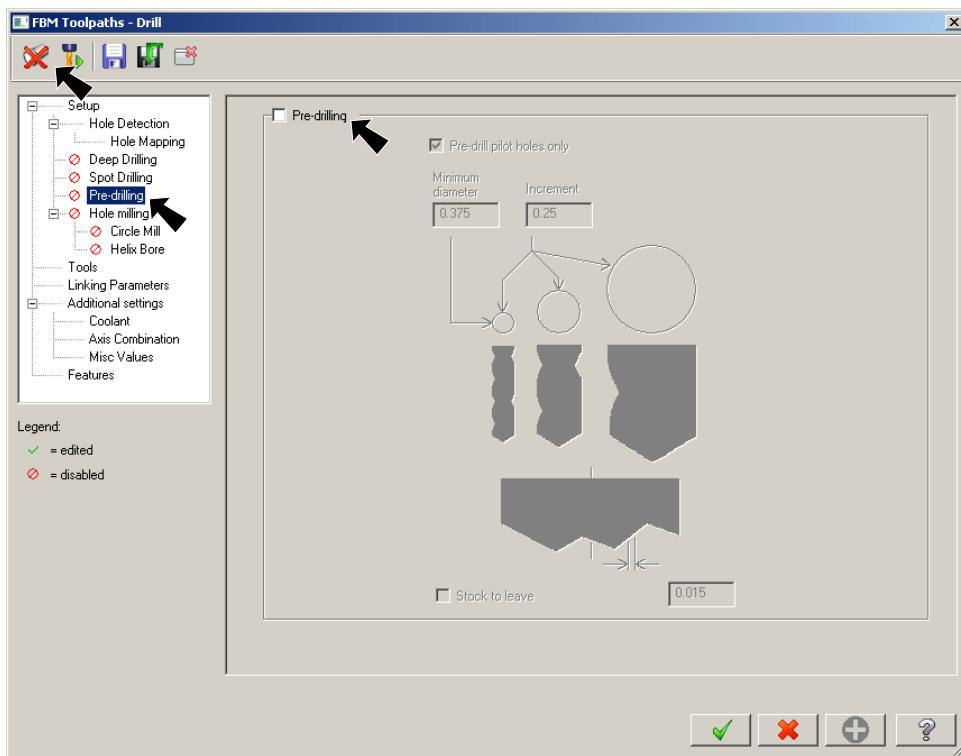

Fig. 68
Step 4. Select **Pre-drilling** from the tree control and uncheck **Pre-drilling** check box, Fig. 68.
Step 5. Click **Detect** button  at the top of the dialog box to find the holes, Fig. 68.